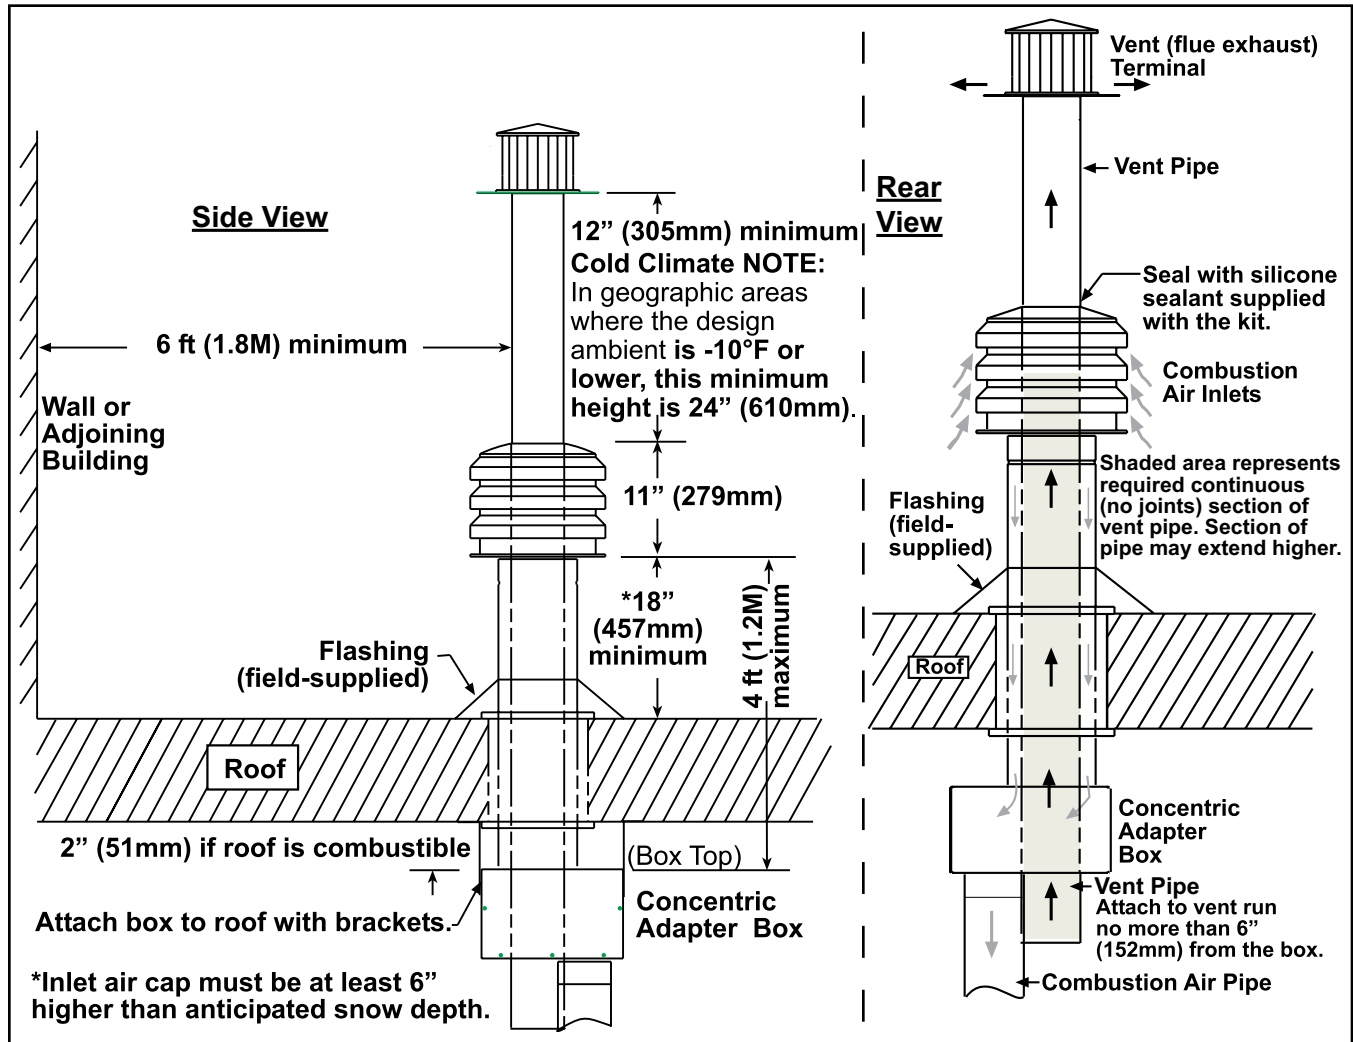

Figure 7. Option CC2 Installation
- b. Select location away from fresh air intakes, allowing space for concentric adapter box inside. Vent terminal must be located away from adjacent buildings as shown in Figure 7.
11. Verify compliance with Figure 7 and with all specifications listed in Venting and Combustion Air Requirements section and subsections.